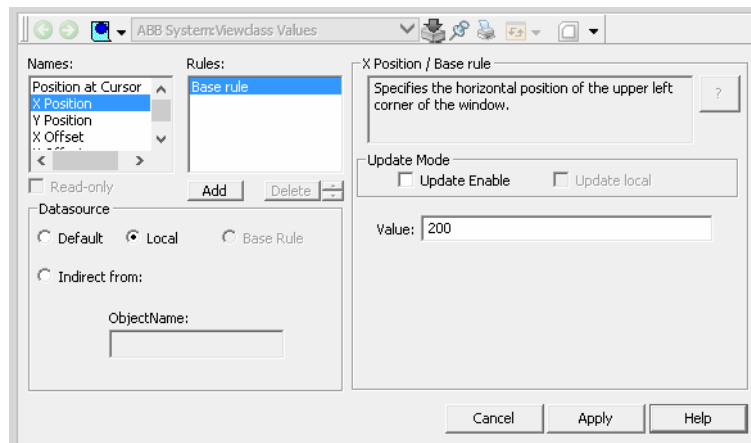

Figure 75. The Different View Class Values
5. Configure the **Viewclass Values** aspect (see Figure 75).
The different View Class Values in the **Names** area (Figure 75) are the following: